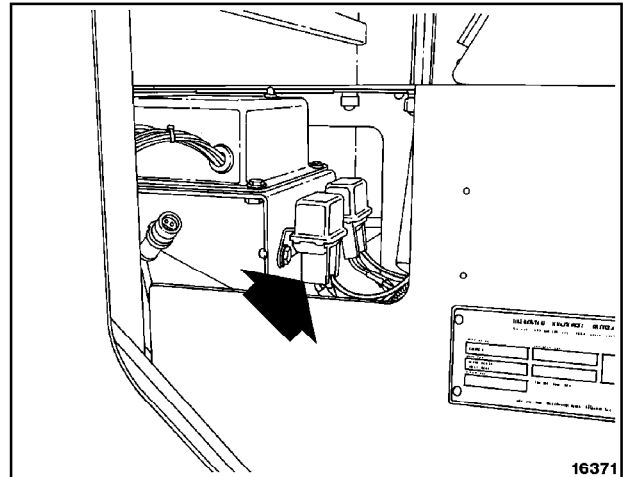

Figure 62 RELAY CONNECTOR CONTAINING WIRE "10 AWD" (LOCATED JUST IN FRONT OF AWD CONTROLLER)
3. Unplug connector (Figure 62) containing wire "10 AWD" from relay located just in front of the AWD controller. This must be done for the test so the brakes can be applied without shutting off power to the AWD system.